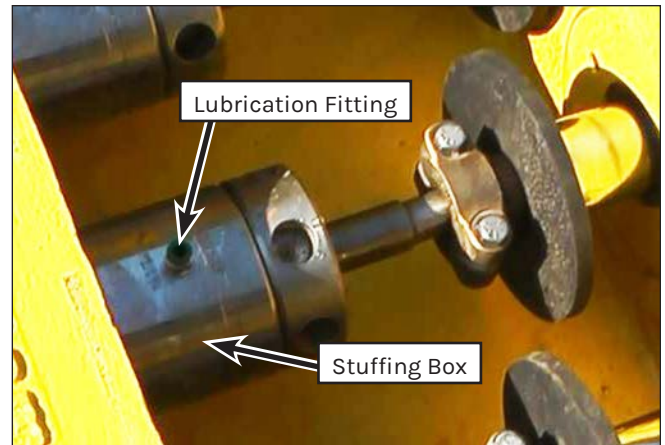

Figure 70: Lubrication Line Fittings.
18. Apply Teflon tape to the threads of the lubrication line fittings (Figure 70). Install the fittings onto the stuffing boxes.